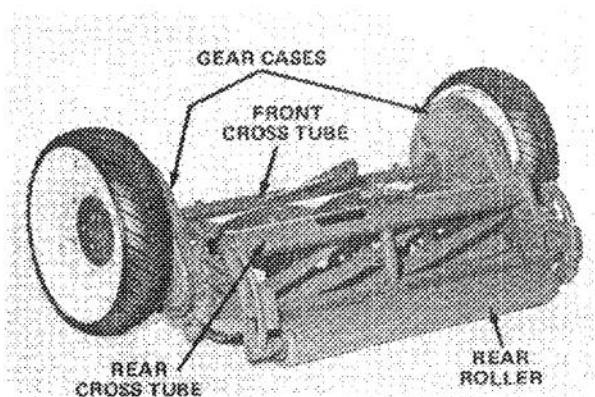

Figure 4
2. Stand behind the mower and check rear roller. Roller must be level with the flat surface (Fig. 4). If roller is level with flat surface, reel bearings should be checked; refer to Check Reel Bearings and Mower Fasteners, page 5. By contrast, use the instructions below if rear roller is not level with flat surface.
3. Loosen six nuts holding front cross tube to both gear cases (Fig. 4). Also loosen six cap-screws holding rear cross tube to end of both gear cases (Fig. 4).
4. Press down simultaneously on both gear cases (Fig. 4) until a definite set is taken and roller touches — is level with — flat surface.